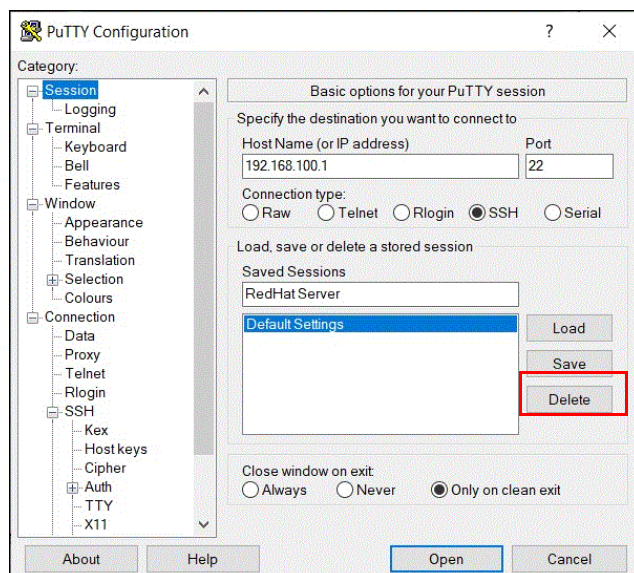

Figure C-12 Session information
- Enter the following information in the fields in the right pane (see Figure C-12):
- Click **Save** to save the new session (Figure C-12).